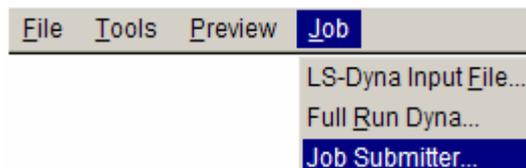

Figure 7.52 Job Submitter menu
1. Click **Job→Job Submitter...** in the menu bar. See Figure 7.52.